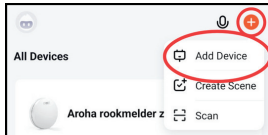

Figure 1: Add Device in app
Step 5: Click on the “+” in the top right corner of the app home screen. Then choose “**Add device**”, as you see in Figure 1. The app will now automatically look for devices that are in pairing mode. Follow the steps as described in the app.